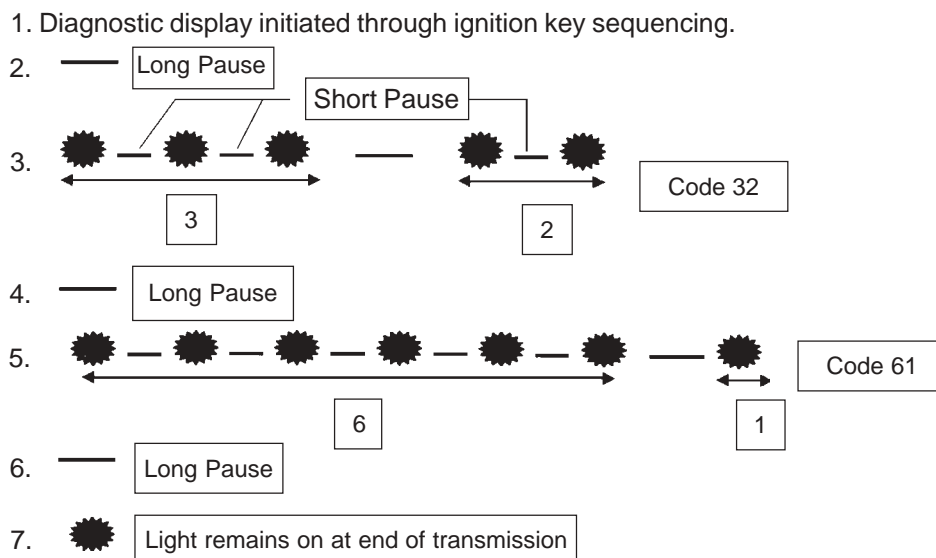

Figure 5B-40.
3. Any stored fault codes will then be displayed as a series of MIL blinks (from 2 to 6) representing the first digit, followed by a pause, and another series of blinks (from 1 to 6) for the second digit (see Figure 5B-40).